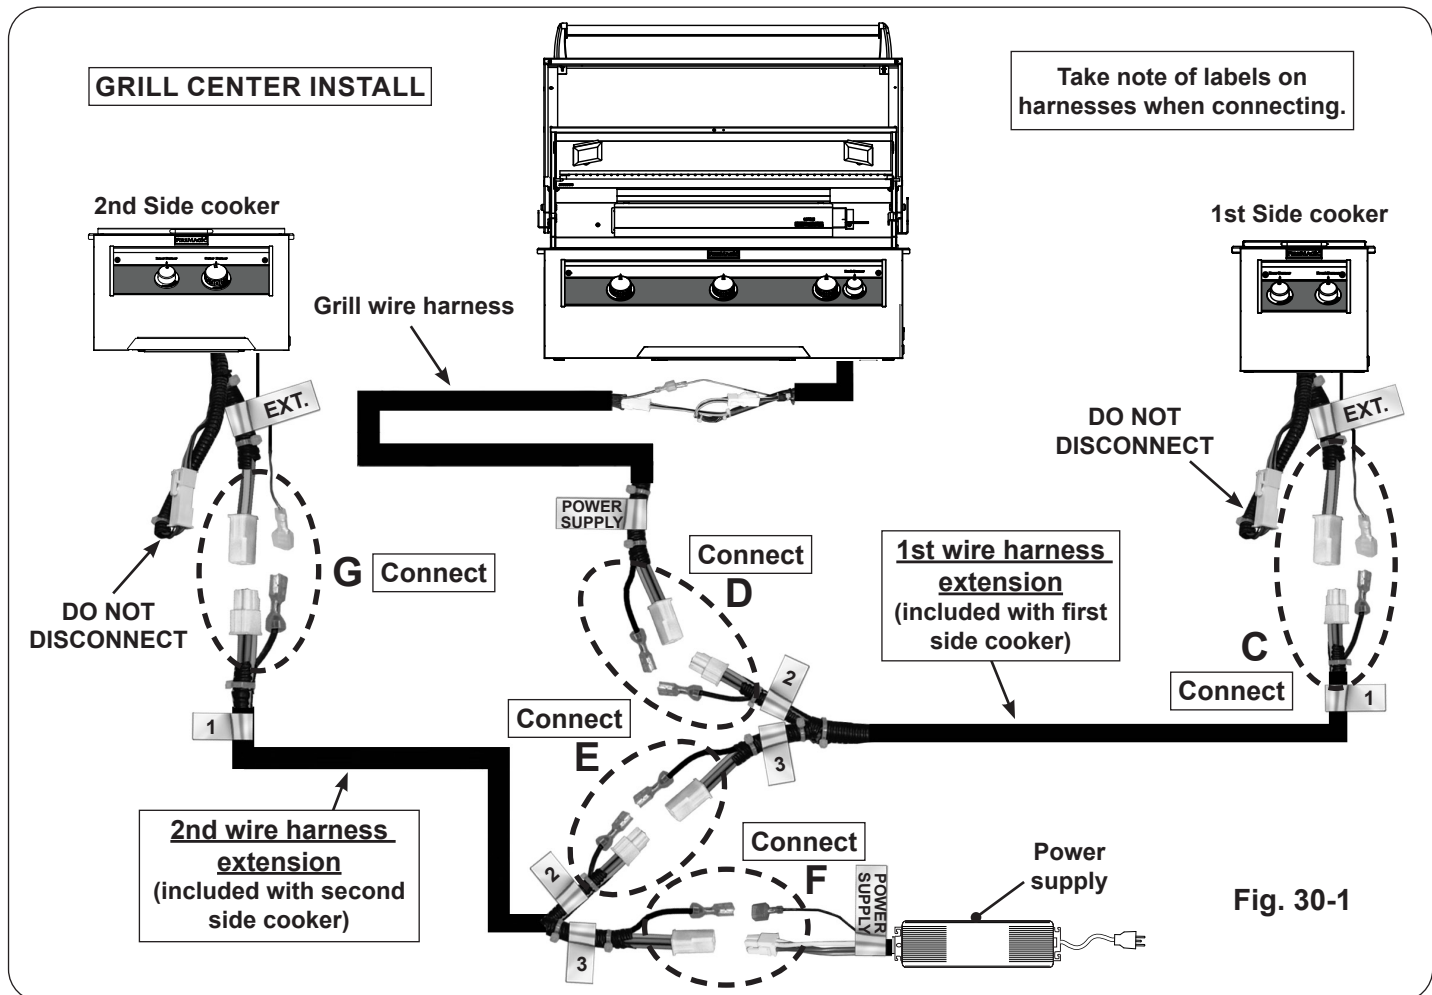

Fig. 30-1
- Locate the FIRST wire harness extension that is included with the FIRST side cooker and make connections C and D (see Fig. 30-1, C & D).
- Locate the SECOND wire harness extension that is included with the SECOND side cooker and make connections E, F, and G (see Fig. 30-1, E, F, & G).